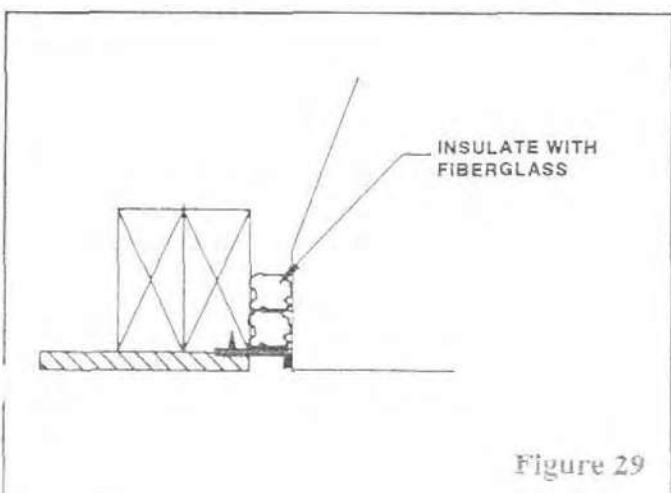

Figure 29
- 2) Insulate the gap left between the sides of the fireplace (see Figure 29). If the gap is too small to effectively insulate, it may be caulked with the high temperature silicone or equivalent caulking material.